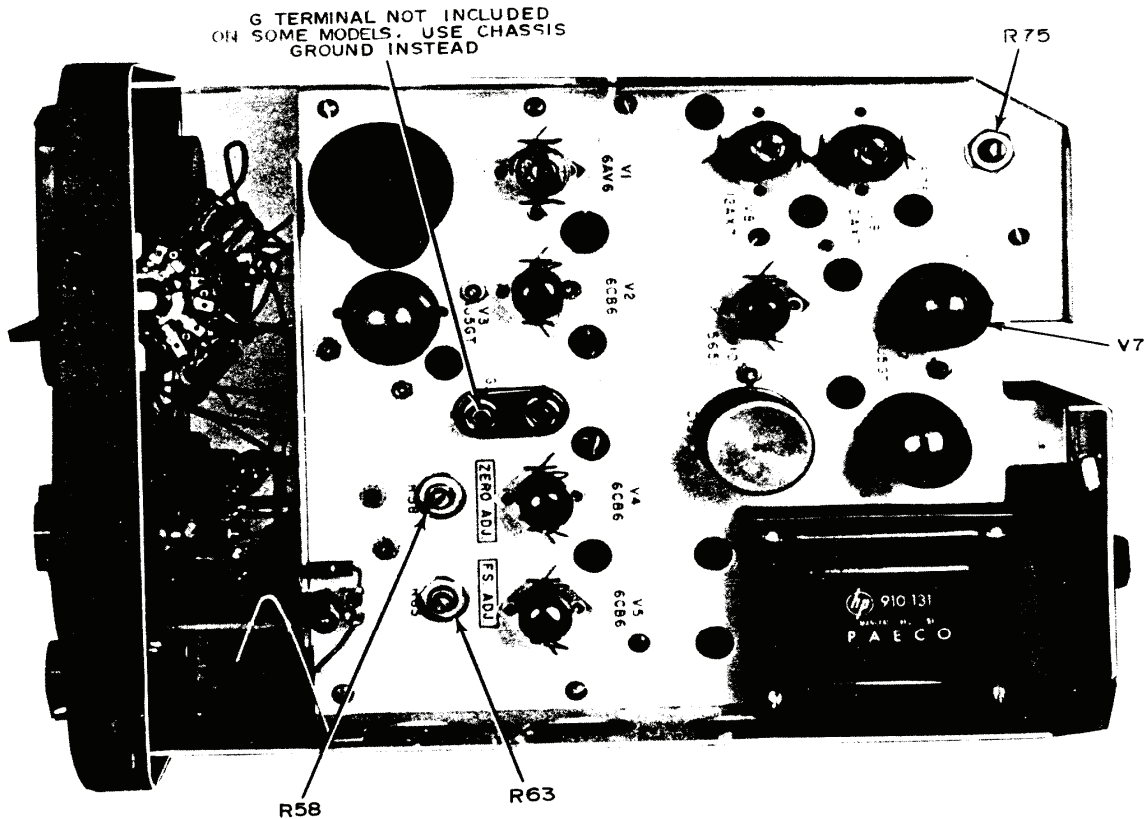

Figure 1. Test instrument - right side view.
(1) Connect multimeter to TI **G** (ground) (fig. 1) and **CAL**, connectors.
(2) Adjust **ZERO SET COURSE**, and **FINE** controls fully cw.
(3) Advance **BOLO BIAS CURRENT (BIAS CURRENT** on TS-779/U) switch until TI meter pointer swings cw.
(1) Adjust **ZERO SET COARSE** and **FINE** controls for a 0.465 Vac indication on multimeter.
(2) Adjust R58 ZERO ADJ (fig. 1) for a 0 (zero) indication on TI meter (R).
(3) Adjust **ZERO SET COARSE** and **FINE** controls for a 0.190 Vac indication on multimeter.
(4) Adjust R63 FS ADJ (fig. 1) for a full-scale indication on TI meter (R).
(1) Connect multimeter between pin 3 of V7 and chassis ground (fig. 1).
(2) Adjust autotransformer output for 105, 115, and 125 Vac. If multimeter does not indicate between 247.5 and 252.5 Vdc at each output, perform **b** below.
b. Adjustments. Adjust R75 (fig. 1) for a 250 Vdc indication on multimeter (R).